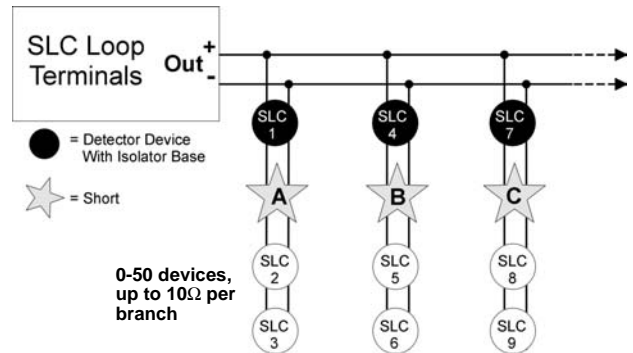

Figure 2: Class B (Style 4) Example
1. If a short occurs at point A (Figure 2), isolator base 1 will activate, isolating SLC devices 2 and 3 from the rest of the loop.
2. If a short occurs at point B (Figure 2), isolator base 2 will activate, isolating SLC devices 5 and 6 from the rest of the loop.
3. If a short occurs at point C (Figure 2), isolator base 3 will activate, isolating SLC devices 8 and 9 from the rest of the loop.